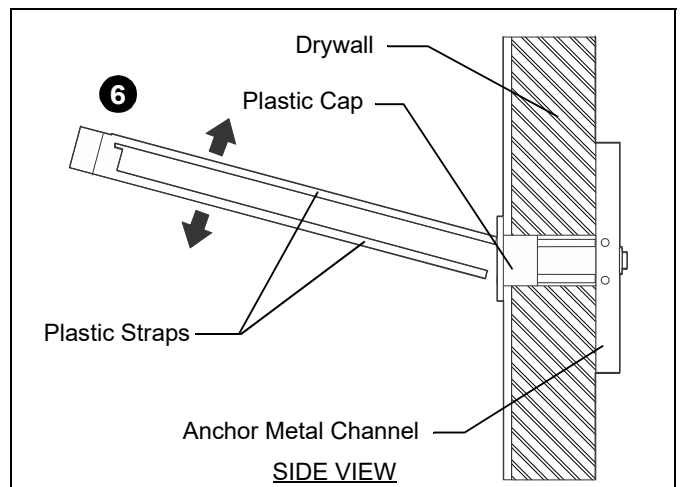

Figure 10
6. Snap off plastic straps on anchor at wall by pushing side to side, snapping off straps level with flange of plastic cap. (See Figure 10)